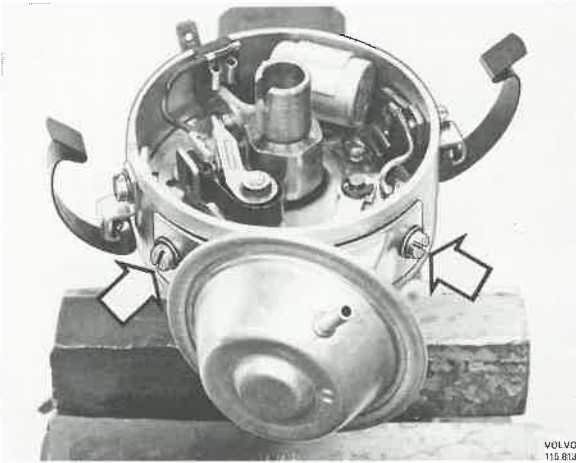

Fig. 34-9. Removing vacuum governor
1. Remove the vacuum governor, see Fig. 34-9.